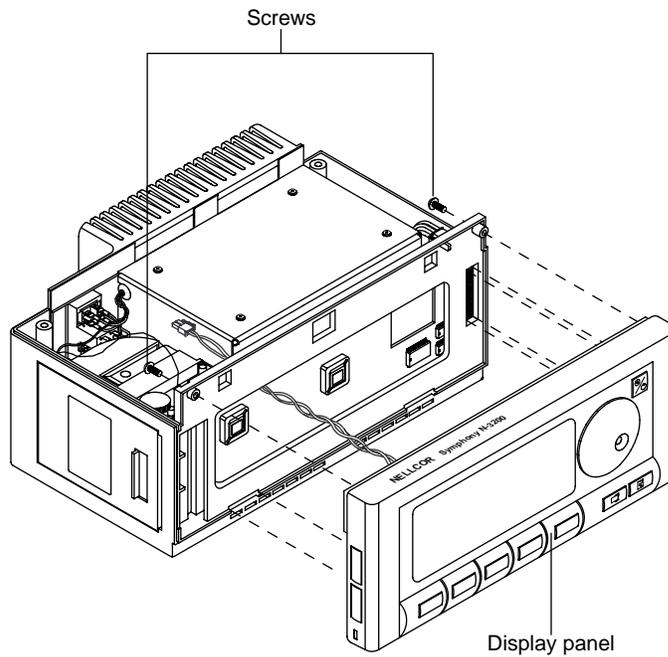

Figure 6-7: Removing Display Panel
2. Remove the display panel as illustrated in Figure 6-7. It may be necessary to use a flat-tip screwdriver to gently pry loose the display PCB. The top portion of the panel should be removed first, then unhook the bottom.